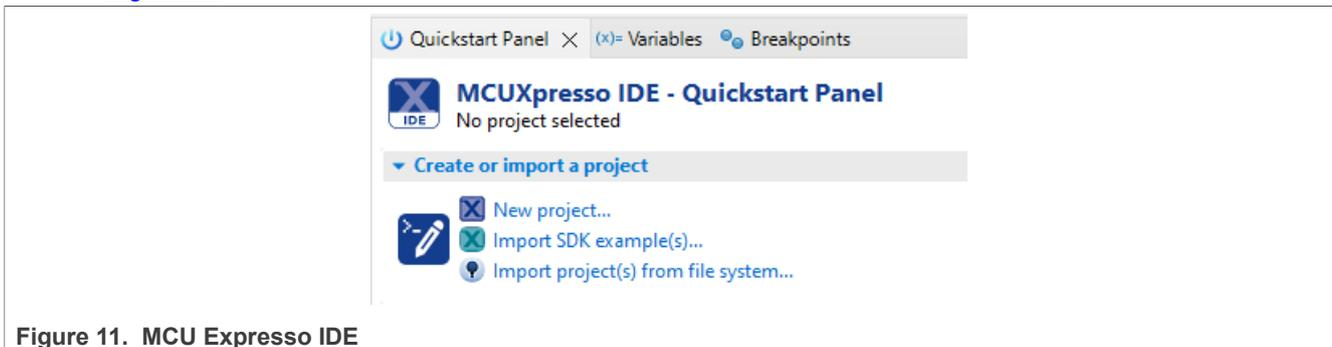

Figure 11. MCU Expresso IDE
2. Open **MCUXpresso IDE**. In the Quickstart Panel view, click **Import SDK example(s)**. See Figure 11.